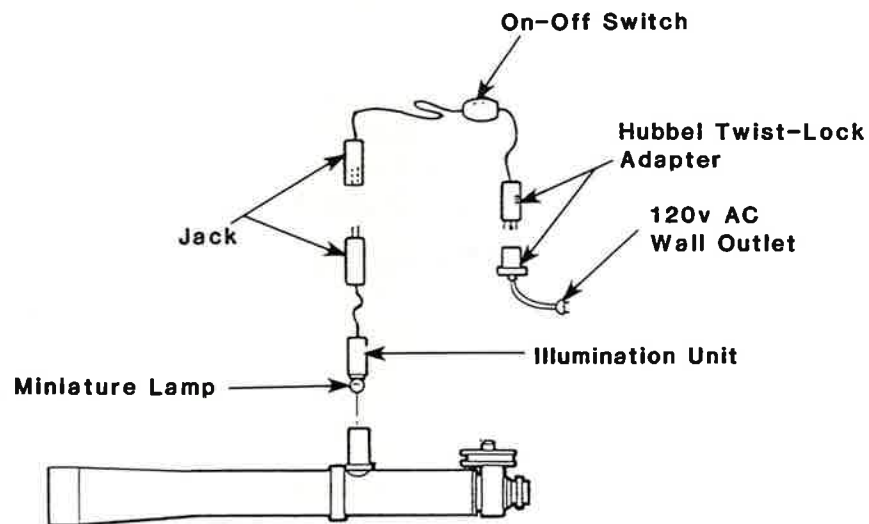

Figure 6. Lamp Replacement
1. Pull apart the jack, as shown in Figure 6.